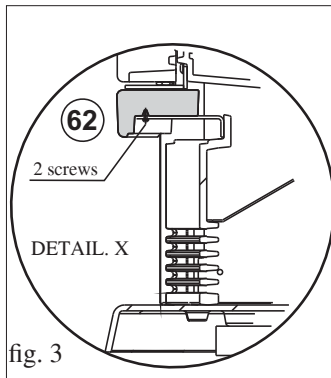

fig. 3
- Use the supplied Allen key to loosen the screws that hold the cast iron lower front grill (4) in place and remove it.
- Position the front panel (62) and use an Allen key to fasten it in place using the 2 supplied M6x25 screws as indicated in detail "X" (fig. 3).